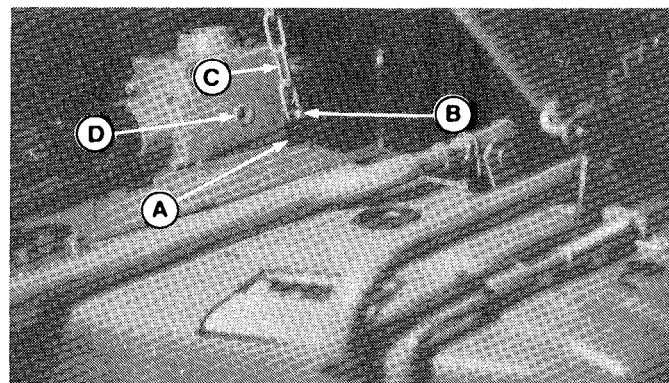

Figure 3.
4. Raise mower to mid-cut position. Hook up the chains (C, figure 3) to the clevis (A) on each side of gear box. Insert pin (B) thru clevis and chain, then install hairpin clip in pin. (Install so clip is toward inside.)
5. With mower in high cut, disconnect chains (figure 3).
2. **Check mower fluid** by removing check plug (D, figure 3) on left hand side of gear box. Fluid should be at bottom of hole when mower is level. Use SAE 85W90 gear oil.